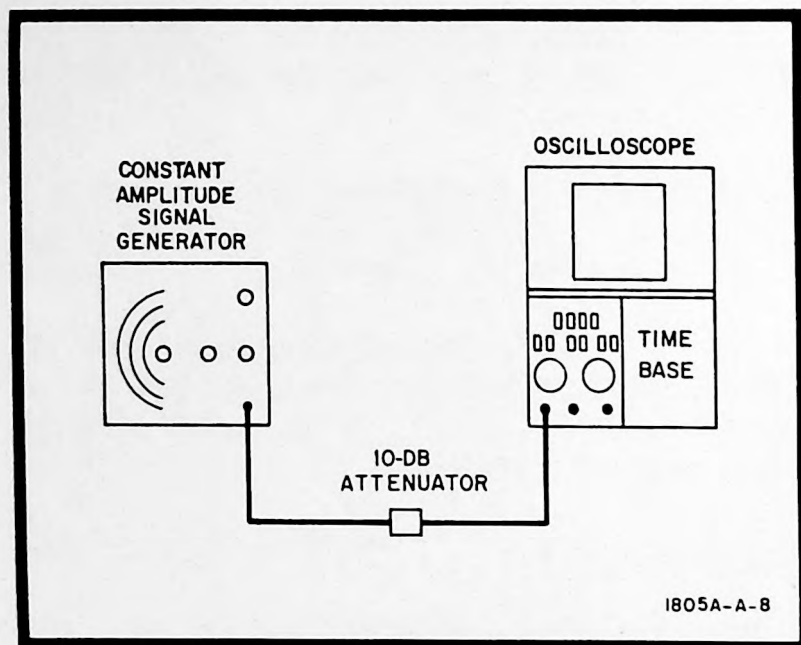

Figure 5-5. Bandwidth Test Setup
a. Connect equipment as shown in figure 5-5.